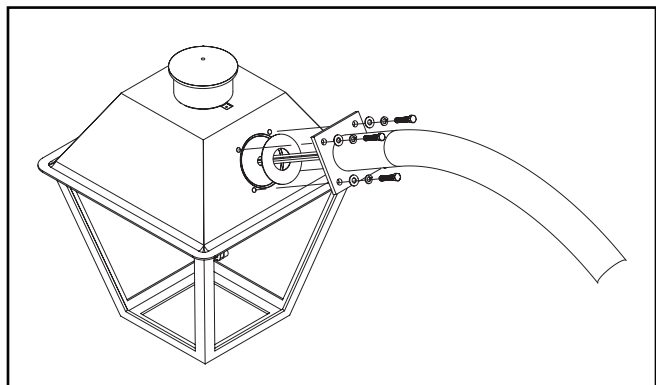

Figure 2.
2. To attach the decorative scroll arm (supplied by others) to the luminaire, pull wires through the scroll arm and secure with four sets of 3/8-16 hex head bolt, 3/8 split lock washer, and 3/8 plain washer (Figure 2) supplied with the luminaire. Torque bolts to 10 ft-lbs.